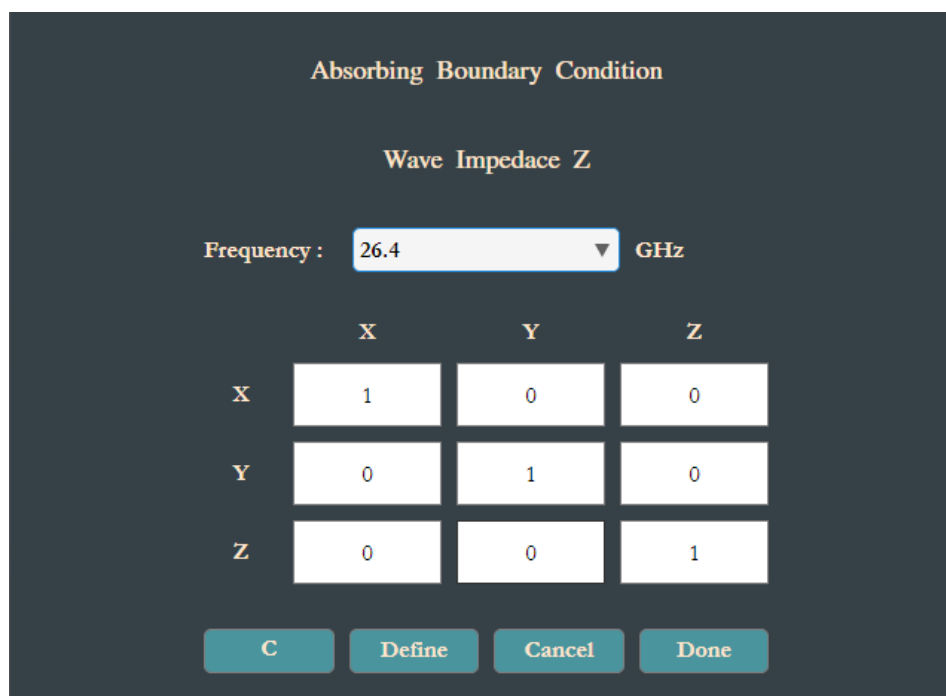

Figure 15 Boundary Tensor Form – Dispersive Tensorial Absorbing Boundary Condition.
To proceed to the input of the tensorial or scalar wave impedance the user must click on the **Wave Impedance (Z)** button, which produces the Boundary Tensor form (Figure 15). As with the Domain Tensor form, any input must be validated by clicking the **Define** button before returning to the **E-B** Eigen Mode module.